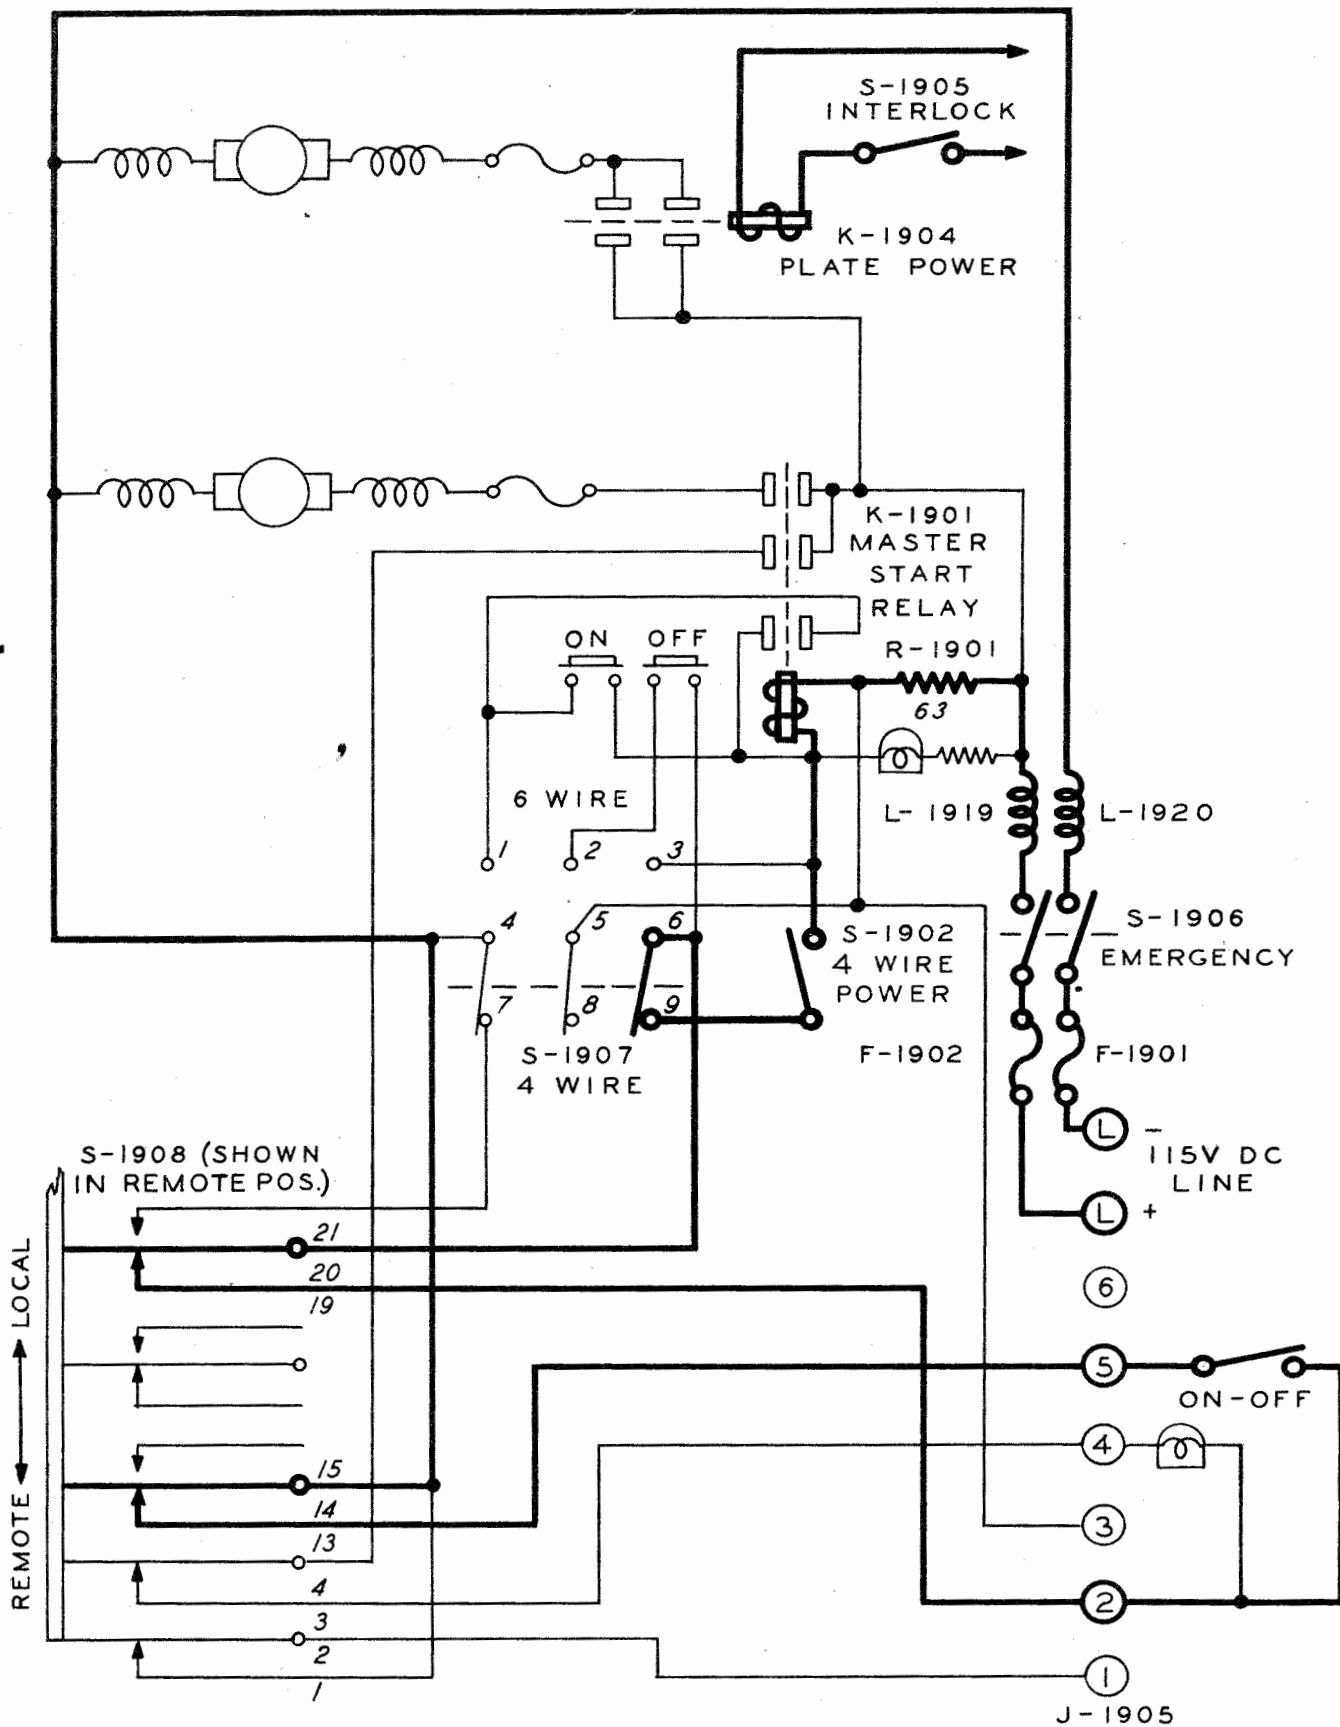

Figure 4-5 Remote Power Control - 4 Wire Navy Circuits
e. REMOTE POWER CONTROL - 4 WIRE NAVY CIRCUITS. (See figure 4-5) Power control of 4 WIRE Navy circuits requires the use of a SPST positive action ON-OFF switch connected across terminals 2 and 5 on terminal board J-1905. For this type of control the LOCAL-REMOTE switch S-1908 must be in the REMOTE position, the 4 WIRE-6 WIRE selector switch S-1907 in the 4 WIRE position and the 4 WIRE POWER switch S-1902 in the ON position.